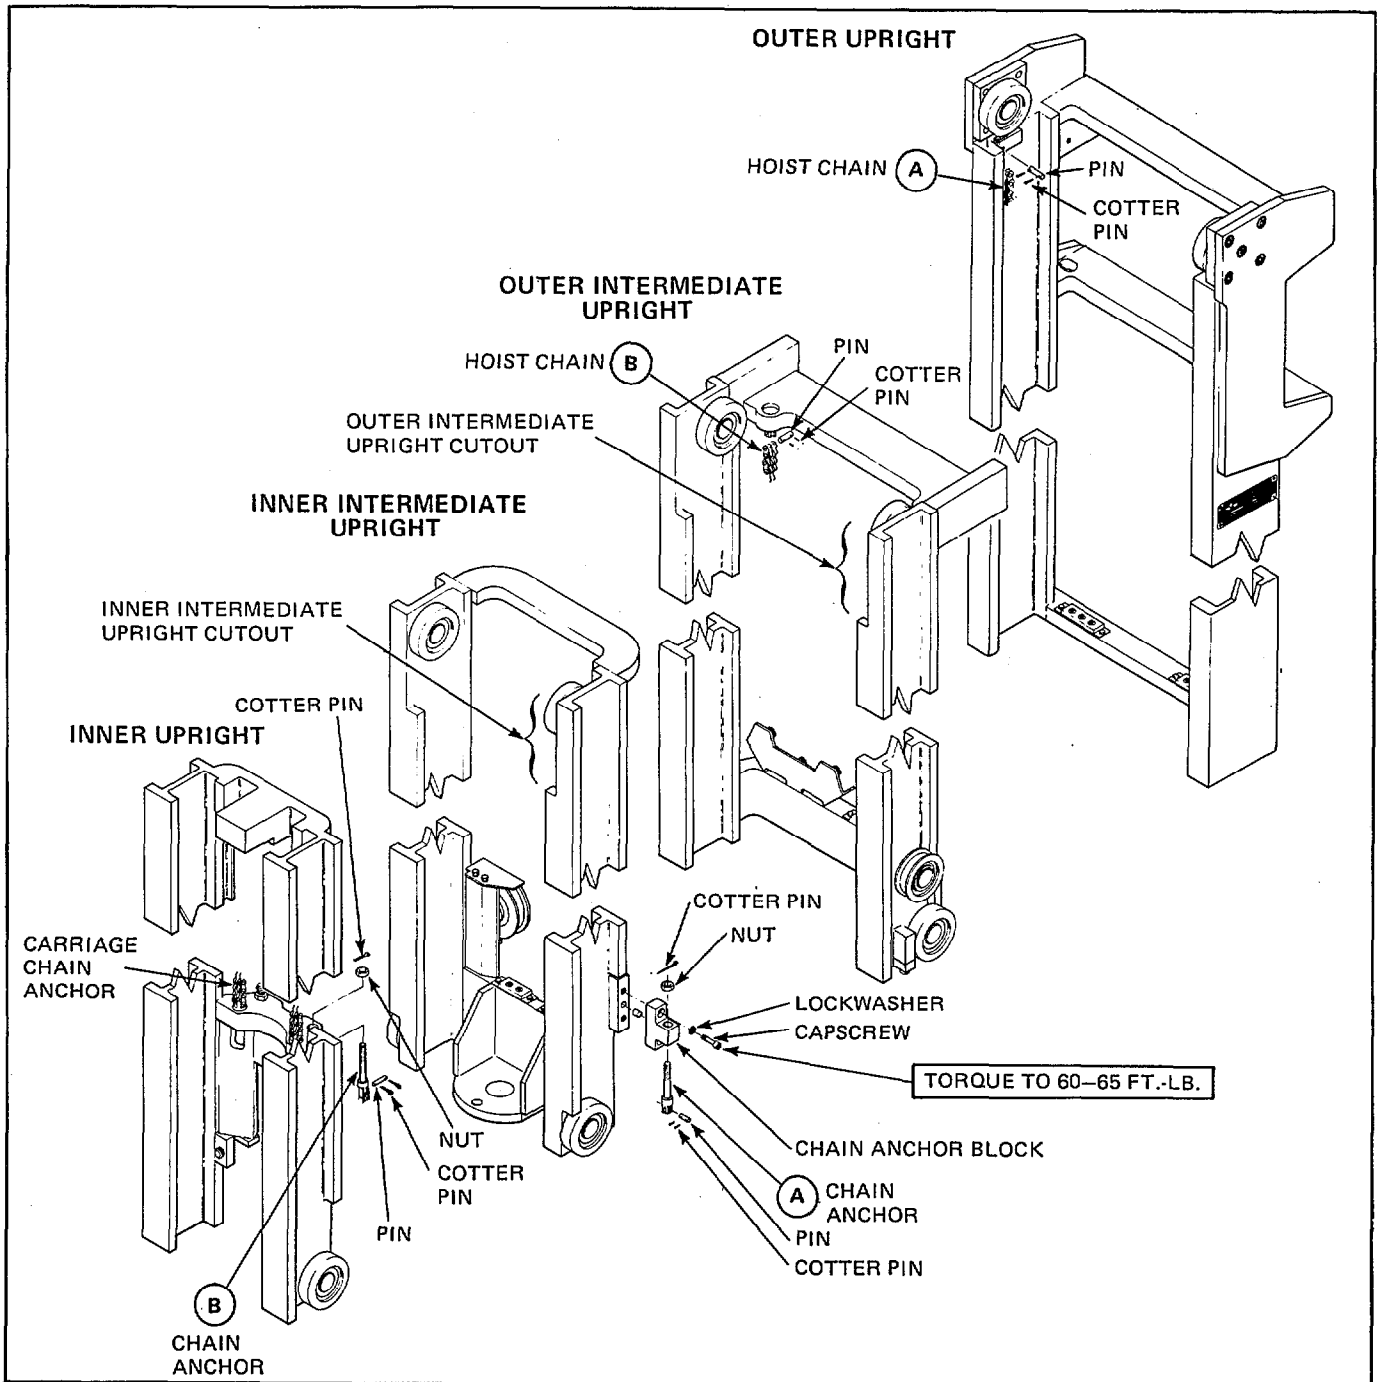
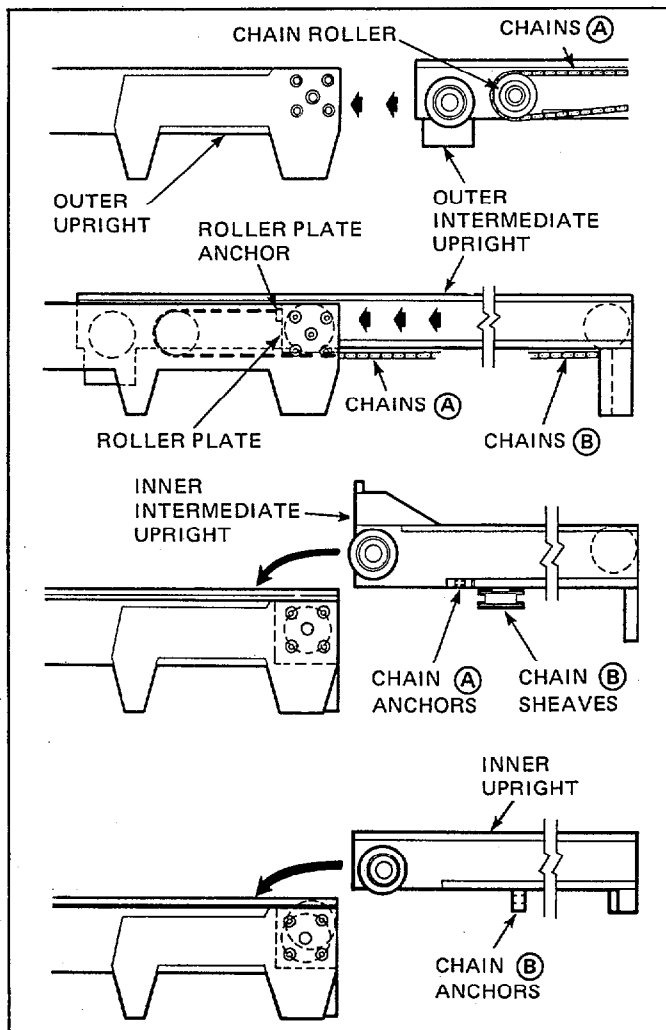

Figure 32. Mast Lubrication (typical)
Figure 34. Upright Reassembly
Refer to Figure 32.
2. Assemble the upright load rollers onto their stub shafts using an appropriate number of shims. See Figure 32. These shims should be installed to provide a clearance no looser than 0.030 inch at the tightest point throughout the travel of the member. Refer to Section 5.3-12 for load roller shimming.
3. Assemble the mast chain sheaves and rollers on their stub shafts. See Figure 32.
4. Use a sling and hoist (or some other appropriate lifting device) to position the outer intermediate upright near the top of the outer upright as shown in Figure 34.
5. Loop chains (A) around the chain roller located near the bottom of the outer intermediate upright. Keep the chain taut as you slide the uprights together.
6. Connect chains (A) to the outer upright roller plate anchors using new cotter pins. Install the plates to the outer upright. Tighten the capscrews to a torque of 55–60 ft.-lbs.
7. Connect chains (B) to the outer intermediate upper crossmember using new cotter pins. See Figure 32.
13. Connect chains (B) to the chain (B) anchors on the inner upright lower crossmember.
8. Use a sling and hoist to position the inner intermediate upright at the top of the two assembled uprights. See Figure 34.
9. Loop chains (B) around the chain (B) sheaves on the inner intermediate upright. Keep the chains taut as you lower the upright into the outer intermediate and slide them together. Adjust load roller clearance no greater than .030 inch at the tightest point of member travel. Refer to Section 5.3–12.
10. Connect the loose end of chains (A) to the inner intermediate upright chain (A) anchors. See Figure 34.
2. Connect the carriage hoist chains to the anchors on the inner upright crossmember. See Figure 32. Screw in the stop screws on the inner upright and tighten to a torque of 30–35 ft.-lbs.